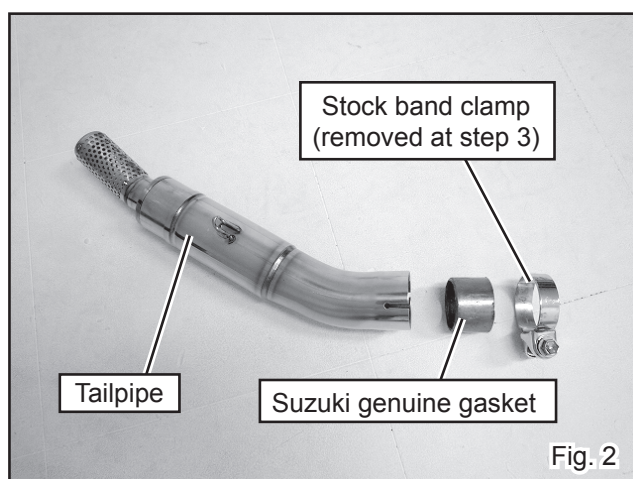

Fig. 2
4) Insert Suzuki genuine gasket into Tailpipe inlet and install the stock band clamp over the Tailpipe inlet. (See Fig. 2)